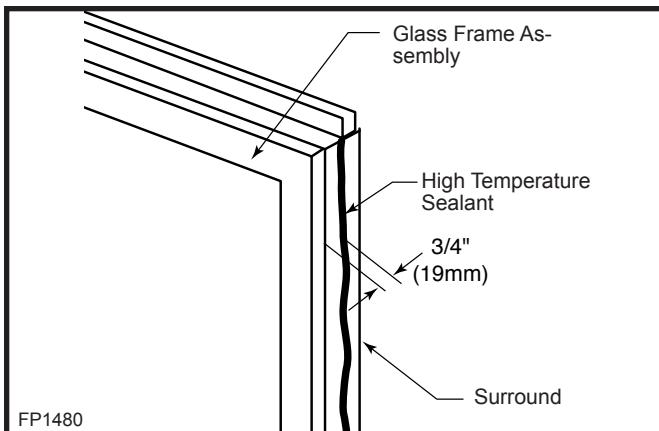

Fig. 26 Apply high temperature sealant on surround around glass frame assembly when unit is installed flush with wall.
- If the fireplace is installed flush with the wall, a high temperature sealant must be applied to seal around the surround around the glass frame assembly 3/4" (19 mm) from the front edge of the surround. (Fig. 26)